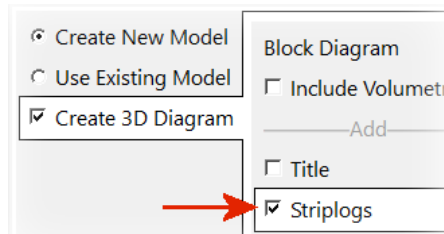
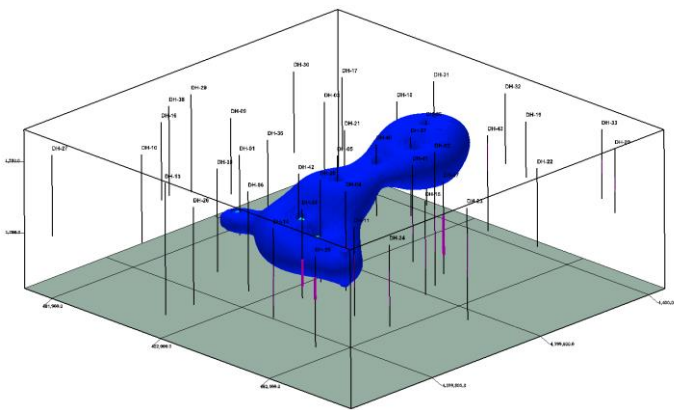

Figure 74
Figure 75
- Return to the *Create 3D Diagram* tab options and enable the *Striplogs* option (Figure 74). This will use the settings that were made in Exercise 4.1 to add striplogs to the plume diagram (Figure 75). If you want to change these settings, click on the *3D Log Design* tab at the top of the menu.